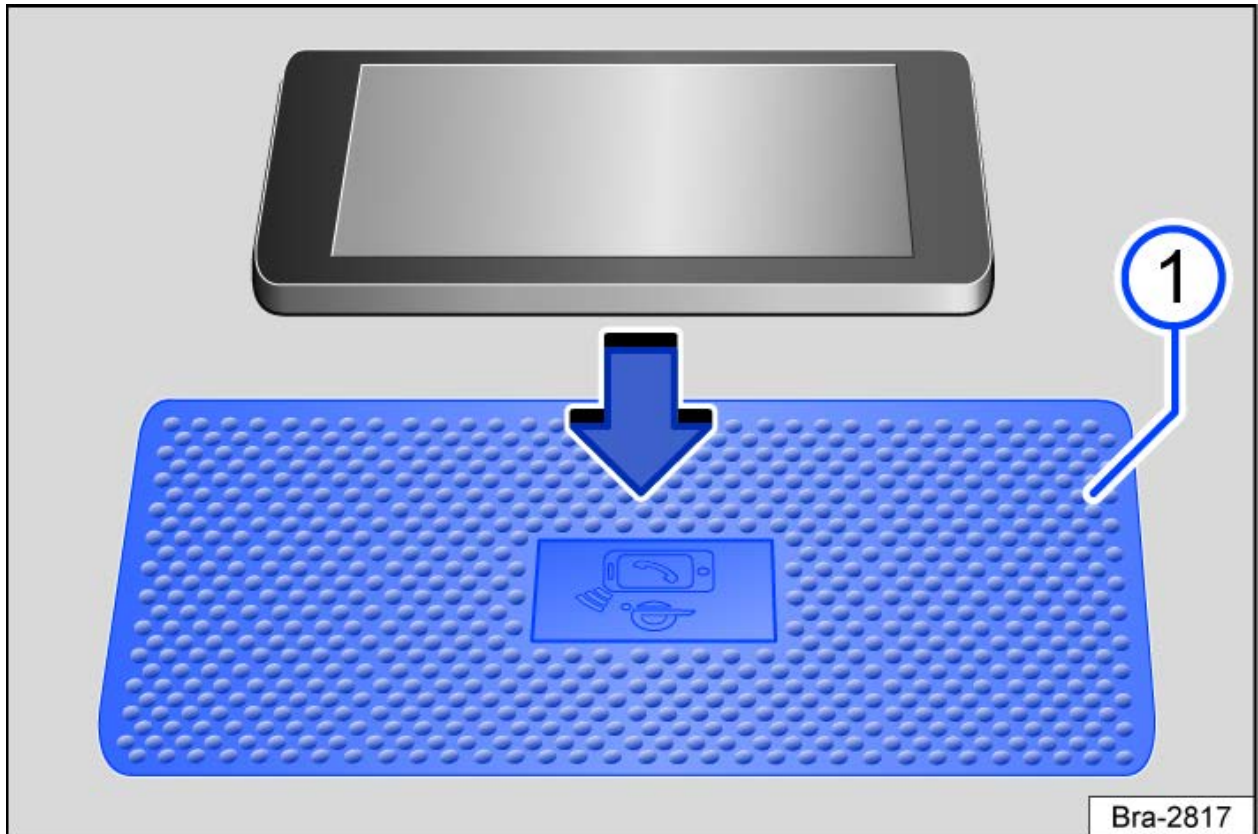

Fig. 1 Diagram: storage compartment with a liner pad for wireless charging.
In some vehicles, a "phone symbol" on the liner mat indicates the center position for the wireless charging function → *fig. 1* (1).